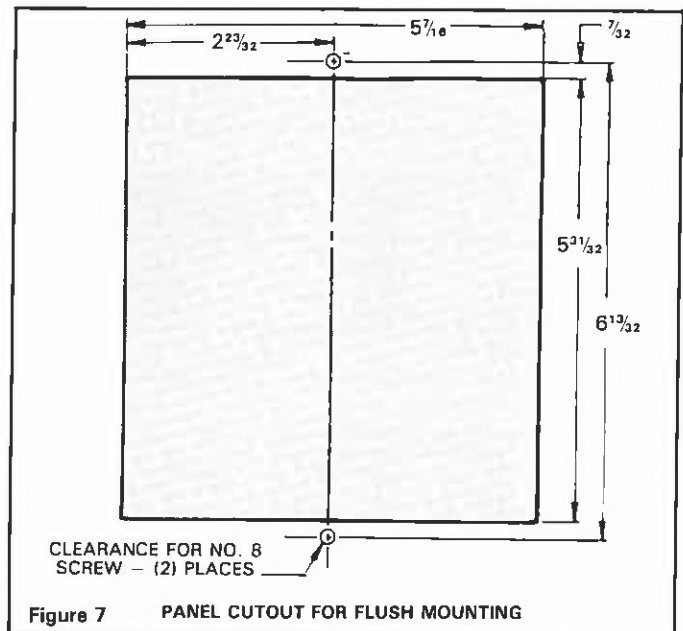

Figure 7 PANEL CUTOUT FOR FLUSH MOUNTING
2. Cut out the panel as shown in Figure 7. Mount to the panel using the 2 holes located on the flange of the enclosure.